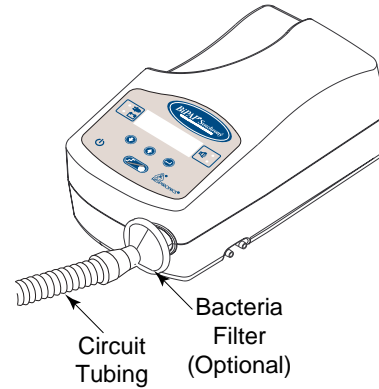

Figure 4-3 Connect the Tubing to the Outlet
STEP 1 Connect one end of the circuit tubing to the outlet of the bacteria filter (if using one) and connect the inlet of the bacteria filter to the large connector on the Synchrony as shown in Figure 4-3.